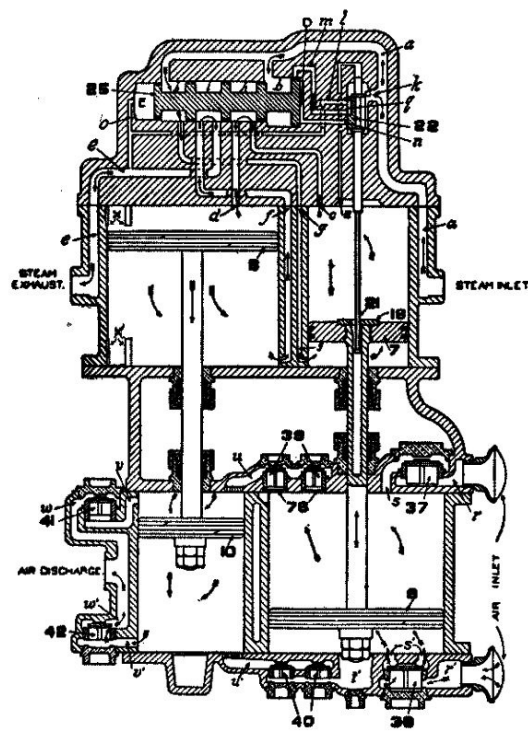
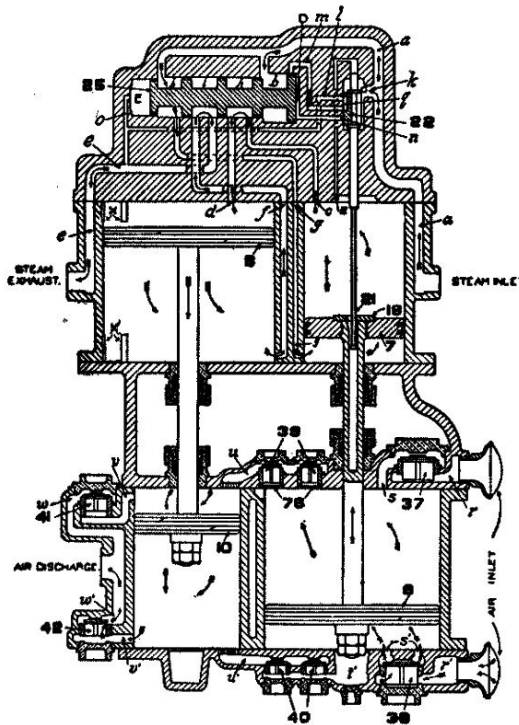

Fig. 4: Diagram of 8½" Cross-Compound Compressor.
Fig. 5: Diagram of 8½" Cross-Compound Compressor. The High Pressure Steam (Low Pressure Air) Piston on Its Downward Stroke
50. Q. What do Figures 4 and 5 represent?
A. When steam is first turned on, it enters the compressor at the steam inlet (see Fig. 4) and flows through passage "a" into the reversing valve chamber "C" and on to chambers "b" and "y" against the inner faces of the differential pistons, causing the main valve to move to the right. In this position of the main valve, port "g" is open to chamber "b", thus admitting live steam to the lower end of the high pressure steam cylinder, causing an upward movement of the piston 7. When the piston 7 has nearly completed its up stroke, the reversing plate 18, which is attached to the top of this piston, comes in contact with a shoulder on the reversing rod 21, forcing it upward, carrying with it the reversing valve 22, the movement of which closes port "m", at the same time opens port "n", filling chamber "D" with live steam from chamber "C" and passage "a". This balances the pressure on the two sides of the large piston of the differential pistons, and the pressure acting against the inner side of the small piston causes the main valve to move to the left (see Fig. 5). The main valve moving to the left closes port "g" to the live steam and at the same time connects this port with port "f" leading to the lower end of the low pressure steam cylinder, causing an up stroke of the low pressure steam piston 8. In the meantime port "c", which leads to the upper end of the high pressure steam cylinder, is open to chamber "y", allowing live steam to flow down on top of the high pressure steam piston 7, forcing it downward. As the high pressure steam piston about completes its downward stroke, the reversing plate 18 engages the button on the lower end of the reversing rod 21, pulling the rod and reversing valve [Pg 180]
A. As the low pressure air piston 9 moves up, a partial vacuum is created beneath it and air from the atmosphere enters the air inlet and passage "r" past the lower receiving valve 38 and fills the lower end of the cylinder with air at about atmospheric pressure (see Fig. 4). In the meantime the air above the piston being compressed will hold the upper receiving valve 37 to its seat, thus preventing a back-flow of air to the atmosphere; at the same time the upper intermediate discharge valves 39 are forced from their seats, allowing the air from the low pressure air cylinder to flow through passage "u" to the high pressure air cylinder, the piston of which is now moving downward. The air beneath the high pressure air piston 10 being compressed will hold the lower intermediate discharge valves 40 to their seats, thus preventing the air in the high pressure air cylinder flowing back to the low pressure air cylinder. When the pressure in the high pressure air cylinder becomes slightly greater than the main reservoir pressure, the final discharge valve 42 will be forced from its seat and the air beneath the piston allowed to flow to the main reservoir through passage "w". On the opposite strokes of these pistons air is compressed in a similar manner, but the opposite air valves are used.